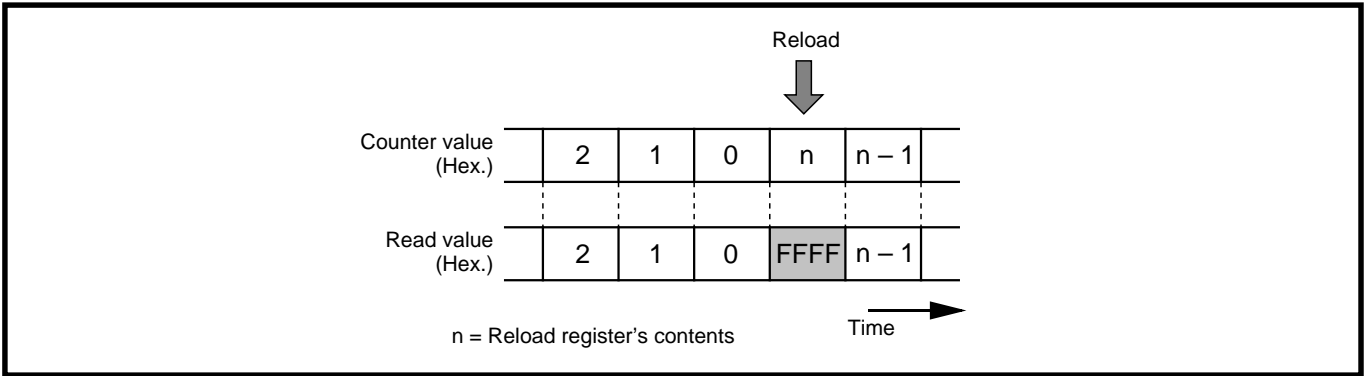

Fig. 7.4.7 Timer Bi register read out
- 1. While counting is in progress, by reading out the timer Bi register, the counter value can be read at an arbitrary timing. However, when reading is performed at the reload timing shown in Figure 7.4.7, value “FFFF16” is read out. If reading is performed in the period from when a value is set into the timer Bi register with the counter stopped until the counter starts counting, the set value is correctly read out.